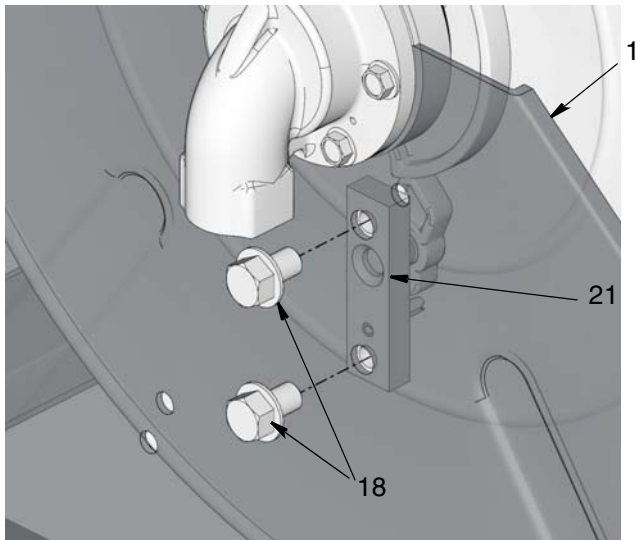

FIG. 76
- Remove large bolts (18) holding latch assembly (21) to base (1) (FIG. 76). Discard latch assembly.
- Align latch assembly (21) with reel base (1) and orient it as shown in FIG. 76.
- Replace bolts (18).